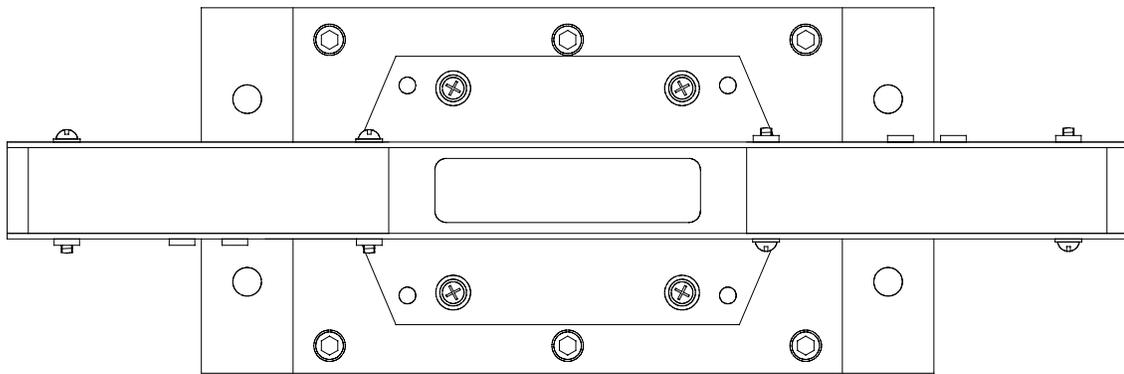

Figure G.5-12: Horn Blinder Properly Aligned on Model 10XR-UT ULTRA-TOUGH™ Receiver
- 6) Visually inspect that the horn blinder is aligned properly {Figure G.5-12} and tighten the mounting screws securely (be careful not to over-tighten the screws, as they are stainless steel screws threading into aluminum).